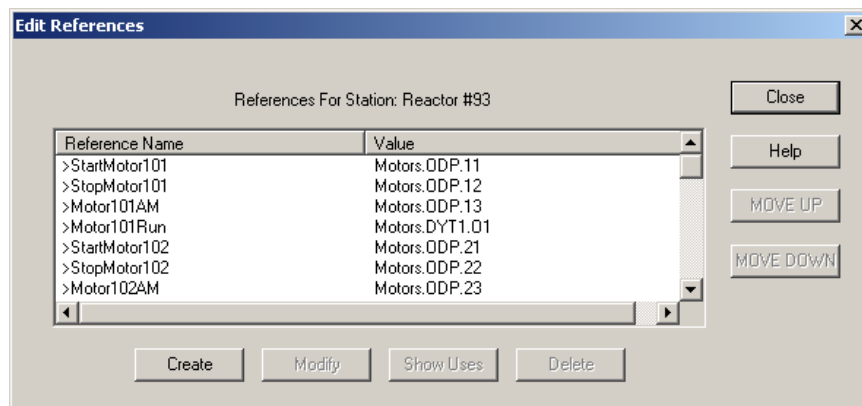

Figure 8-7 Edit References dialog
1. Select **Edit > References**. The Edit References dialog displays a list of references for the active configuration. See figure 8-7.
1. Select **Edit >References**. The Edit References dialog displays a list of references for the active configuration. See figure 8-7.